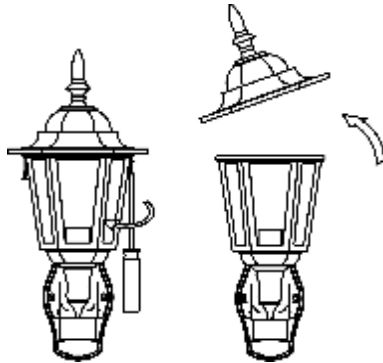

FIGURE 3
- (1) Do not touch the bulb while it is in use or still hot. Allow it to cool (about 5 minutes) before touching it.
- (2) Do not use the bulb rated higher than 60 watts.
- (3) Switch off the power source. Unscrew retaining screw from the top cover (FIGURE 3).